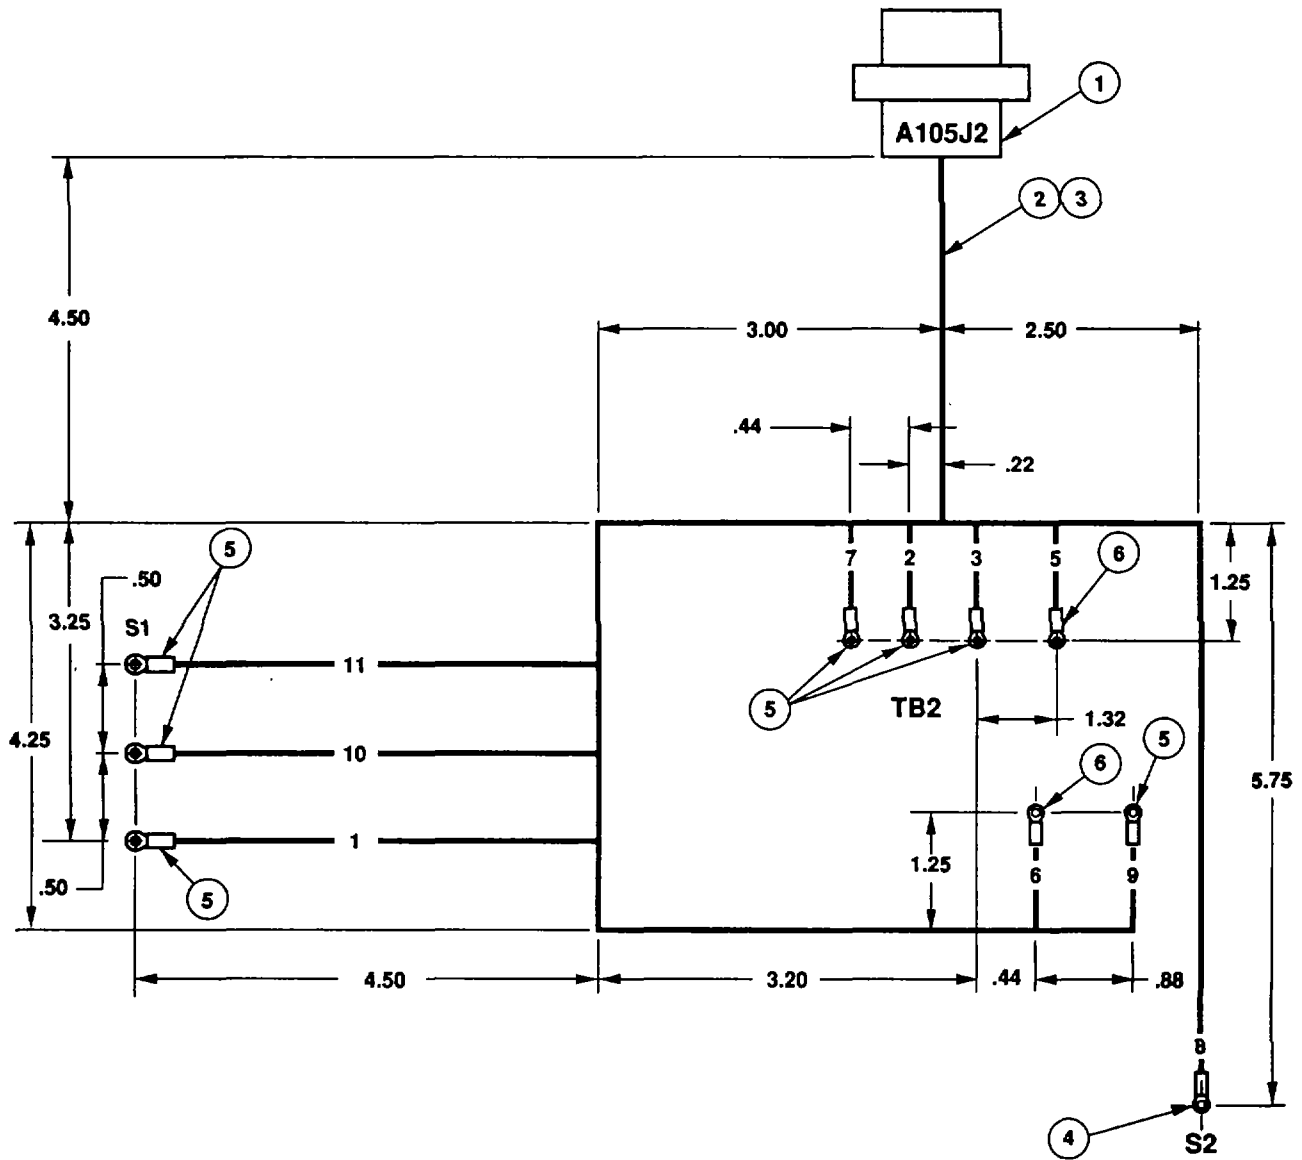

Figure F-7. Wiring Harness A105J2.
- c. Refer to table F-13 to determine wire and cut wire to dimensions shown in Figure F-7.
- e. Install wire in connector (1).